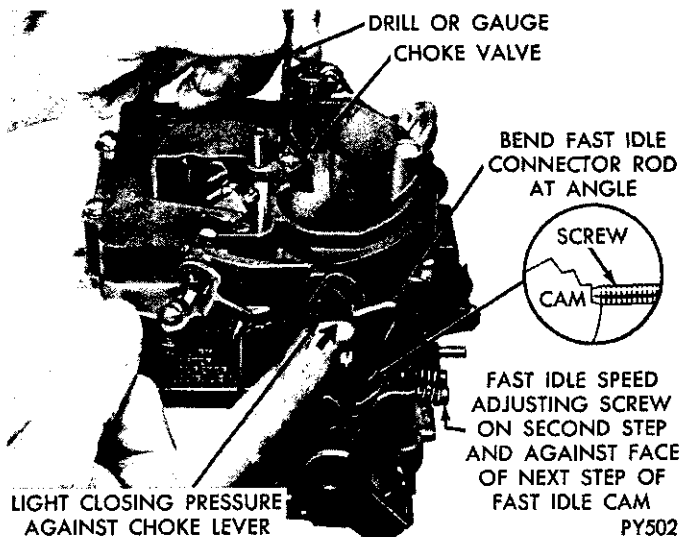

Fig. 12—Fast Idle Cam Position Adjustment
(1) With fast idle speed adjusting screw contacting second highest speed step on fast idle cam, move choke valve toward closed position with light pressure on choke shaft lever.
(2) Insert specified drill (see specifications) between choke valve and wall of air horn. An adjustment will be necessary if a slight drag is not obtained as drill is being removed.
(3) If an adjustment is necessary, bend fast idle connector rod at lower angle, using Tool T-109-213, until correct valve opening has been obtained. (Fig. 12.)